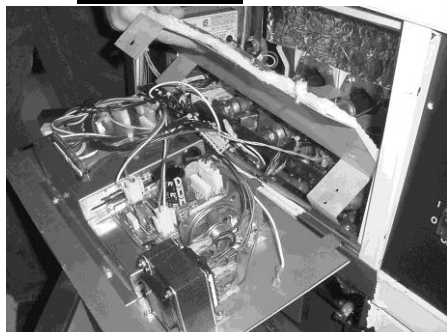

Figure 2-19
2. Remove the control panel and heat shield from control area. Figure 2-19.